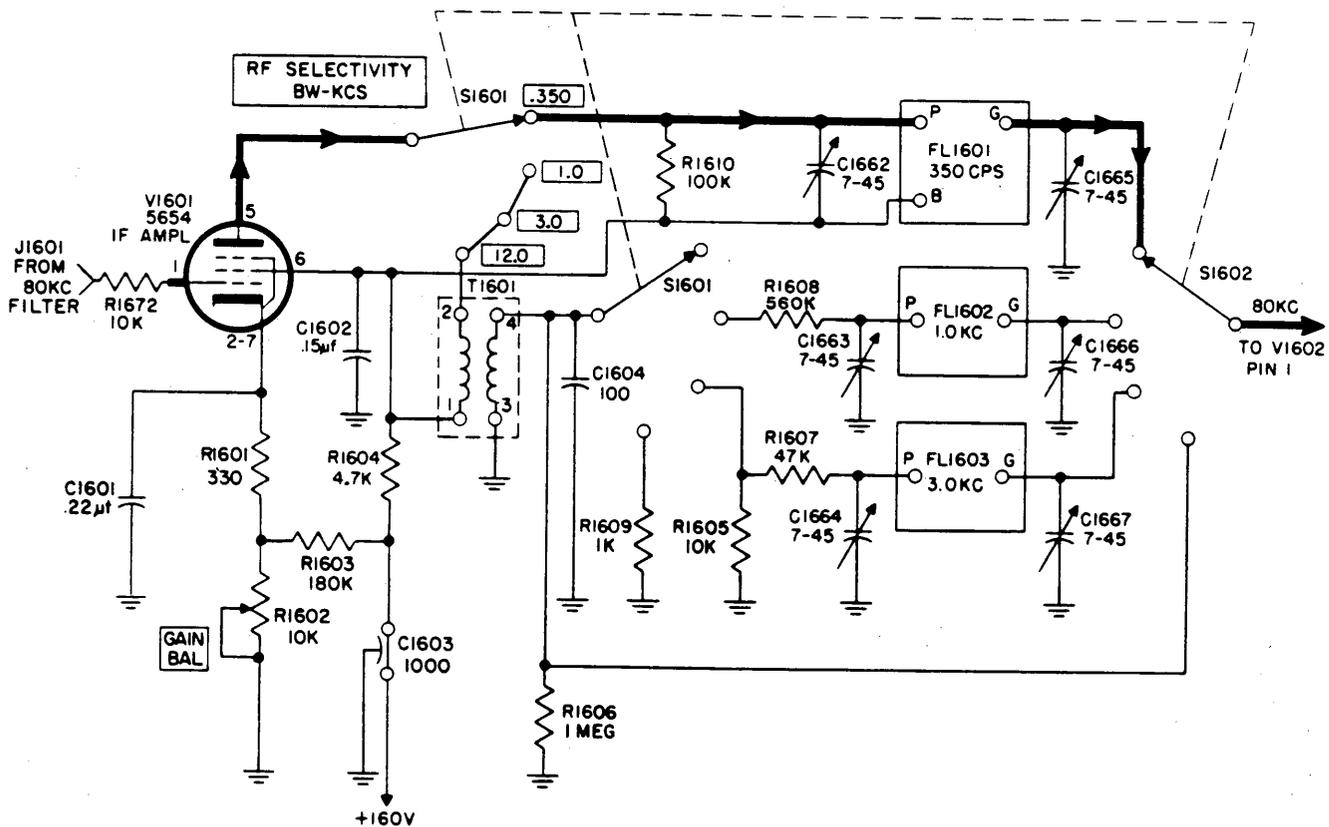

Figure 4-18. IF Amplifier V1601, Simplified Schematic Diagram
a. 80 KC IF AMPLIFIER. (See figures 4-18 and 4-19.)
—The 80 kc IF amplifier has provisions for selection of four possible bandwidths—0.35 kc, 1 kc, 3 kc, and 12 kc, depending on the nature of received signals. These bandwidths are selected by the R.F. SELECTIVITY BW-KCS control. As shown in figure 4-18, the signal from the 80 kc IF filter is applied to IF amplifier V1601 through connector J1601. The gain of V1601 is controlled by GAIN BAL potentiometer R1602, which